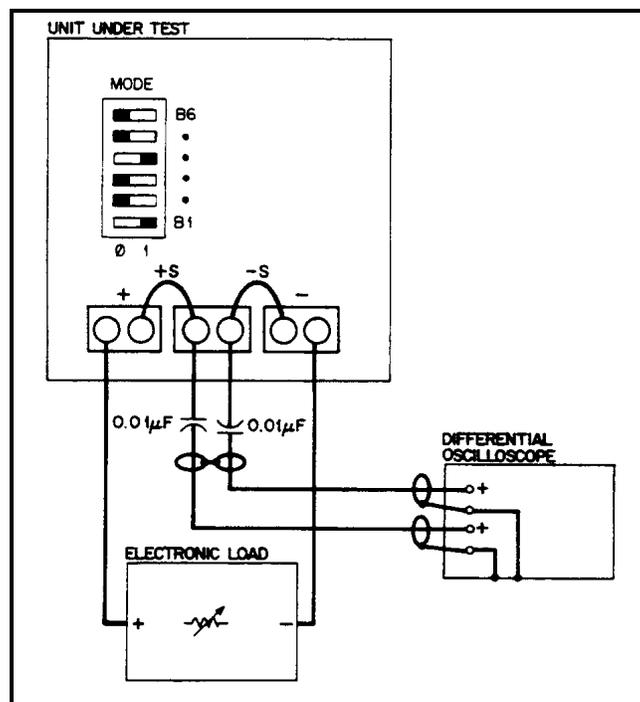

Figure 2-7. Peak-To-Peak Measurement Test Setup, CV PARD Test
Peak-To-Peak Measurement Procedure. Figure 2-7 shows the interconnections of equipment to measure PARD in Vpp. The equipment grounding and power connection instructions on Page 23 apply to this setup also. Connect the oscilloscope to the + S and - S terminals through 0.01 μF blocking capacitors to protect the oscilloscope's input from the unit's output voltage. To reduce common-mode noise pickup, set up the oscilloscope for a differential, two-channel voltage measurement. To reduce normal-mode noise pickup, use matched-length, 1 meter or shorter, 50 Ω coaxial cables with shields connected to the oscilloscope case and to each other at the other ends. Proceed as follows:
- a. Connect the test equipment as shown in Figure 2-7. Operate the load in constant resistance mode (Amps/Volt) and set resistance to maximum.